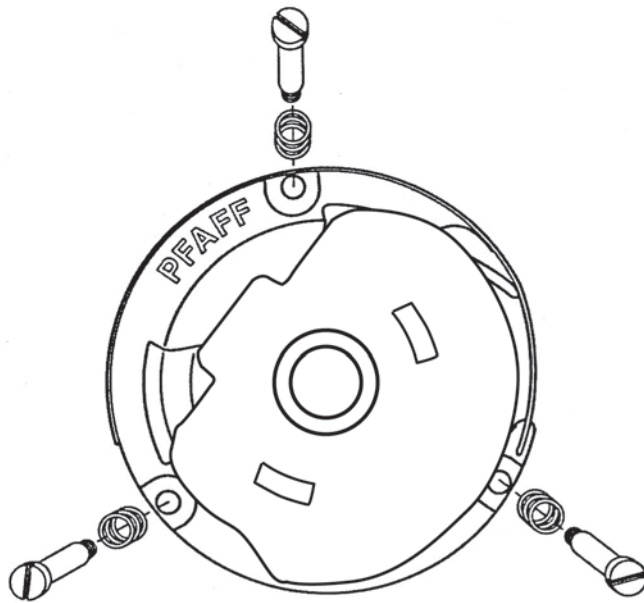

Fig. 26
- Remove the three screws with spring (fig. 26) from behind.
- Secure the sewing hook gib from behind with three screws with springs (fig. 26).